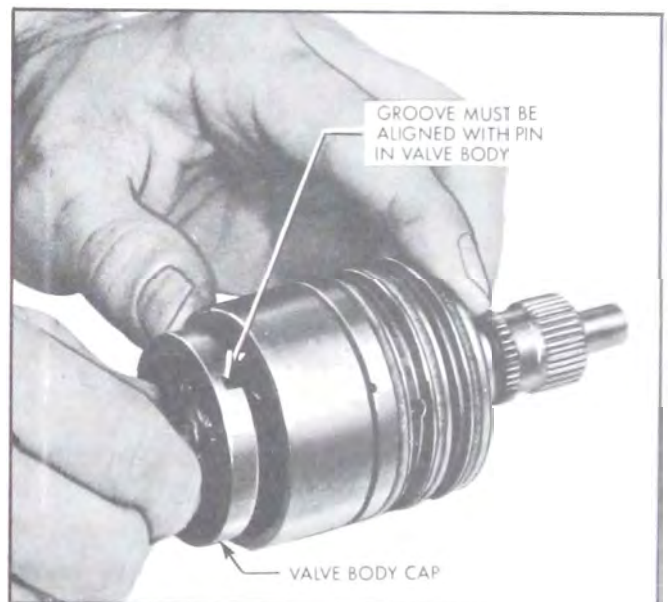

Figure 8-52—Assembling Valve Assembly
3. Assemble the stub shaft torsion bar and cap assembly in the valve body, aligning the groove in the valve cap with the pin in the valve body. See Figure 8-52. Tap lightly on the cap with a soft mallet until cap is against the shoulder in the valve body. Valve body pin must be in the cap groove. Hold these parts together during the rest of valve assembly.